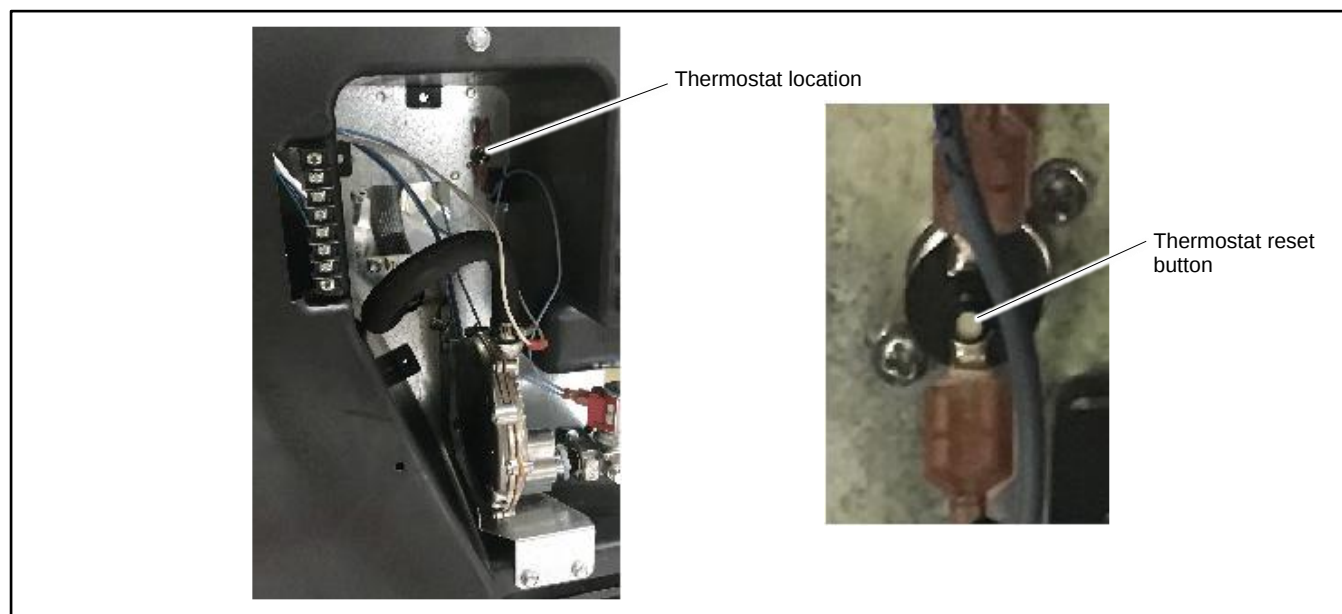

Figure 64 Thermostat
The generator sets include a resettable thermostat. See Figure 64 for the thermostat location in the air intake area, near the fuel system. The thermostat detects excess heat inside the enclosure. If the thermostat trips, the generator will shut down and the controller will display a fault (underspeed, underfrequency, or undervoltage). Check for blocked air inlets and exhaust outlets. Then follow these steps to reset the thermostat.
3. Remove the air intake panel. See Figure 64.